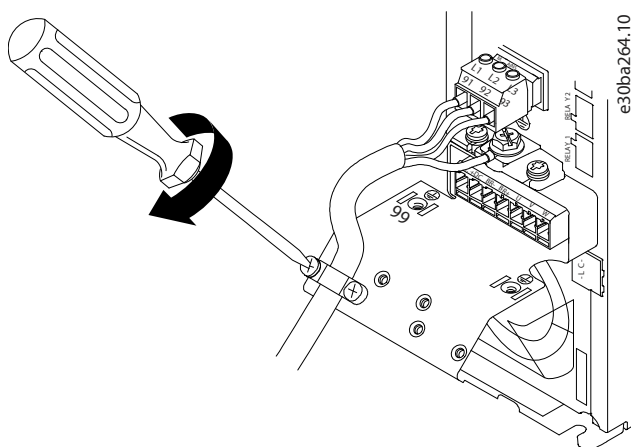

Figure 59: Mounting the Support Bracket
4. Mount the support bracket across the mains cables and tighten the screws as shown in Figure 59. Use the tightening torques described in 7.2 Electrical Installation in General.